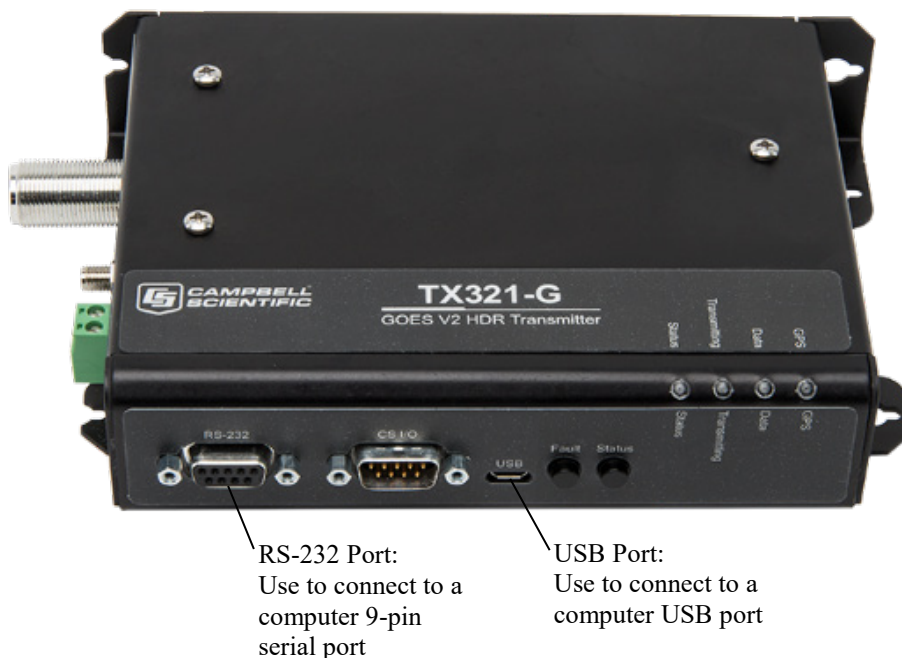

FIGURE 4-1. Ports used for computer connection
- Connect the TX321 to the computer. A standard 9-pin serial cable or SC12 can be used to connect the TX321 RS-232 port to the computer RS-232 port. Alternatively, the transmitter can be connected to the computer USB port via a USB cable (see FIGURE 4-1).